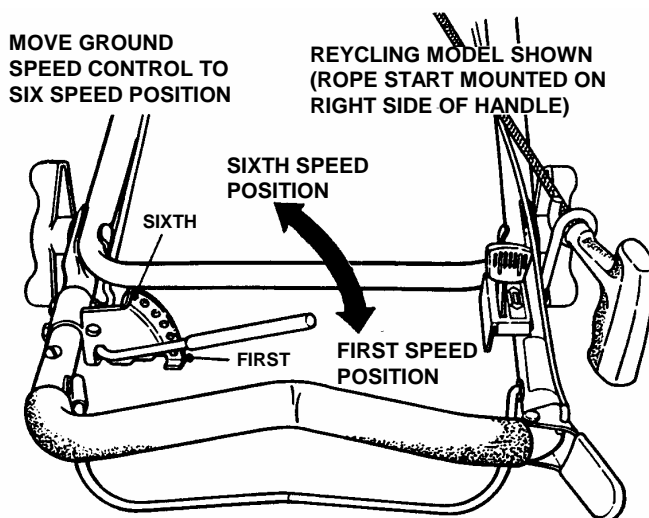

FIGURE 4.8
1. Place ground speed control in the number six speed position. See Figure 4.8.